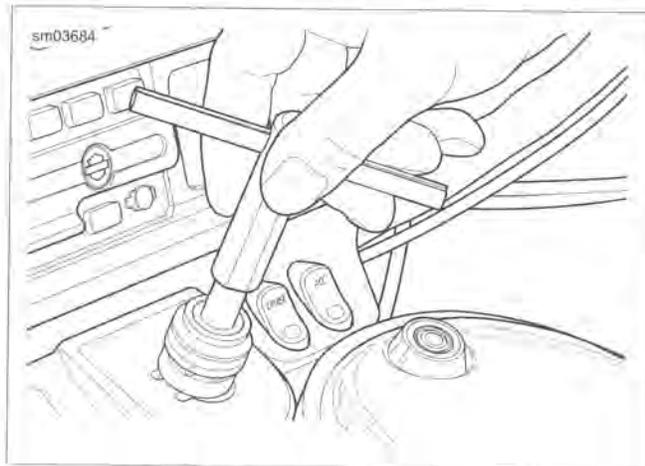

Figure 7-48. Rotate Alignment Tool Without Bottoming
- b. See Figure 7-48. Remove knob. Insert and hold alignment tool so that the bottom of the handle is approximately 0.50-0.75 in (12.7-19.1 mm) from the top of the ignition switch.